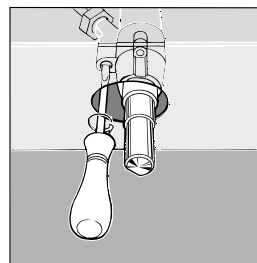

fig.7
- Remove the tap knob and turn the adjusting screw, situated inside or to the side of the tap stem (fig.7), using a screwdriver (loosening the screw increases the height of the flame, tightening decreases it).